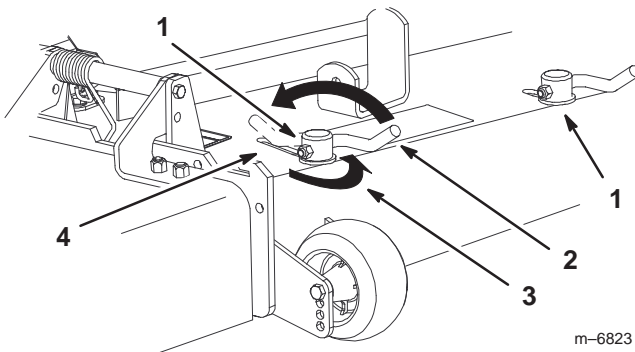

Figure 21
1. To adjust the cam locks, swing the lever up to loosen the cam lock (Fig. 21).
3. Swing the lever back over to tighten the baffle and cam locks (Fig. 21).
4. If the cams do not lock the baffle into place or it is too tight, loosen the lever and then rotate the cam lock. Adjust the cam lock until the desired locking pressure is achieved (Fig. 21).